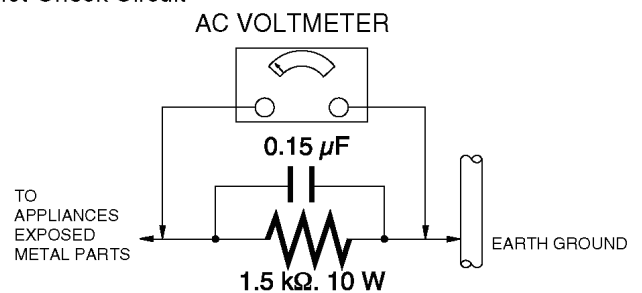

Figure. 1
1.3. Leakage Current Hot Check (See Figure 1.)
2. Connect a $1.5k\Omega$, 10W resistor, in parallel with a $0.15\mu F$ capacitor, between each exposed metallic part on the set and a good earth ground, as shown in Figure 1.